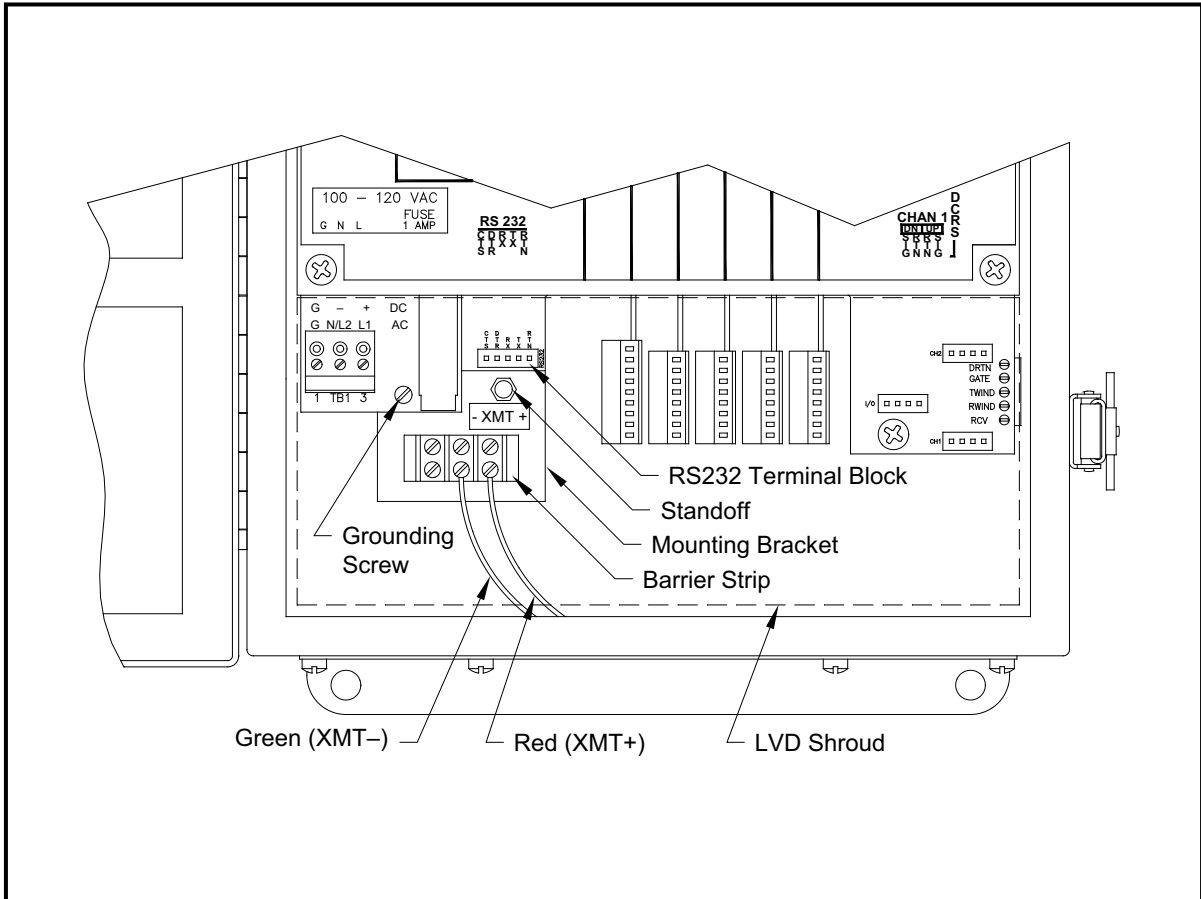

Figure 9: Interface Converter Mounting
A special bracket containing the serial interface converter and a three-terminal barrier strip is mounted inside the Model GM868, just below the RS232 terminal block (see Figure 9 below). The standard **RS232** terminal block is wired to the input of the serial interface converter, and the RS485 output of the serial interface converter is wired to the barrier strip.
Standard factory wiring of the RS485 serial interface is configured for point-to-point wiring. That is, a single Model GM868 may be wired directly to a single personal computer. To connect the RS485 serial interface, refer to Figure 9 on page 71 and complete the following steps:
3. Remove the serial interface converter *mounting bracket* by removing the standoff located just below the **RS232** terminal block and the grounding screw just to its left (see Figure 9 on page 71).